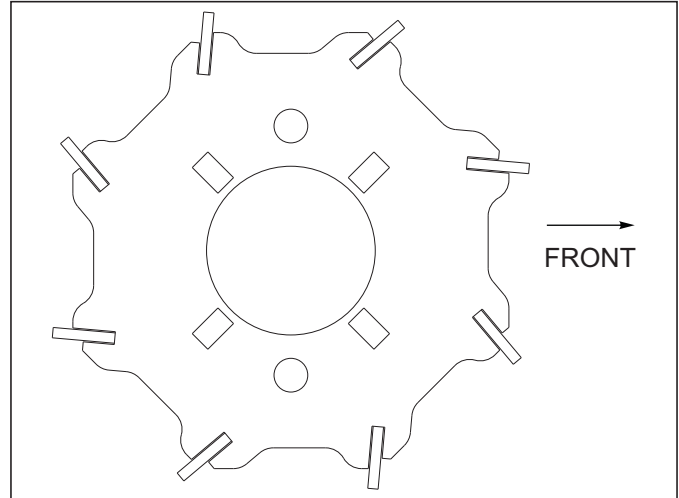

Figure 3-28: Flat Reel
5. Attach flat bar reels with angled blades as shown *See Figure 3-28*.